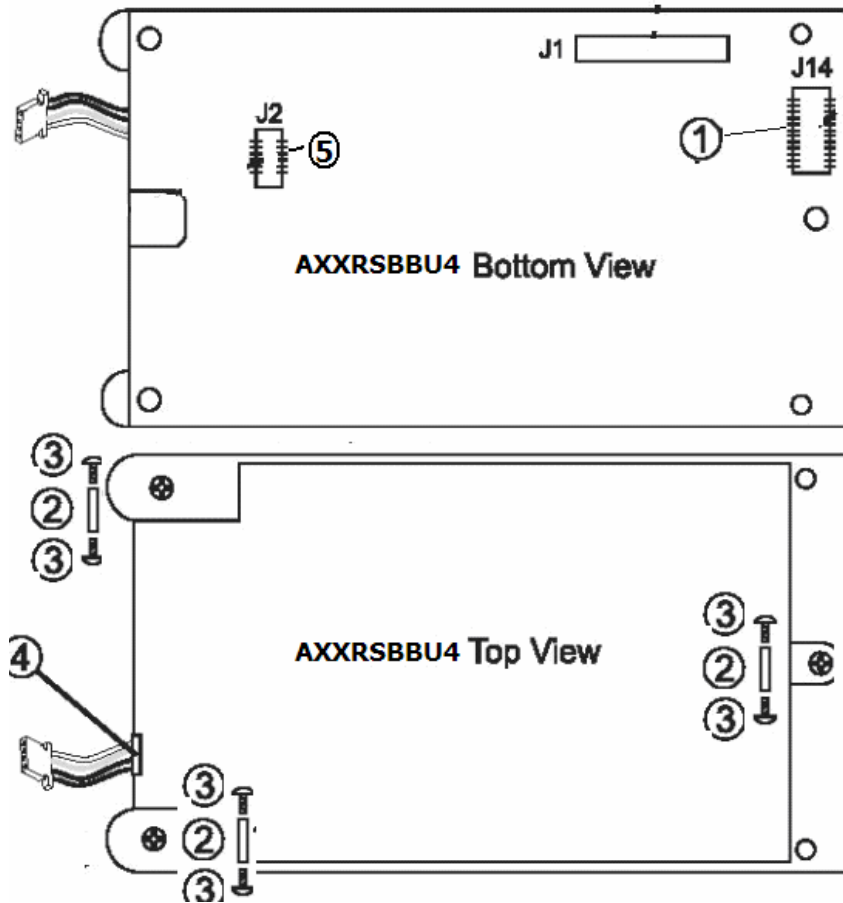

Figure 2-1: Top and Bottom View of the AXXRSBBU4
Figure 2.1 displays the top and bottom views of the AXXRSBBU4. The battery pack is mounted on a daughtercard which mounts to the RAID controller. Take note of the location of the J2 connector (5) which plugs into the Intel® RAID Controller and the 3 standoffs (2) and 6 screws (3). Only the top side of the daughtercard will be visible after installation onto the RAID controller.
2. Insert the battery pack harness connector (4 in Figure 2-1) at the end of the colored wires into the 5-pin J2 connector (5 in Figure 2-1) on the backside of the AXXRSBBU4.
5. Place the three standoffs (#2 in Figure 2-1) between the two cards in the three screwholes.
7. Secure the AXXRSBBU4 to the RAID controller with the 6 provided Phillips (2-56) screws (#3 in Figure 2-1). The standoffs are threaded at both ends and a 2-56 screw goes into each end. (Place 3 in from the battery side and 3 in from the RAID controller side.)